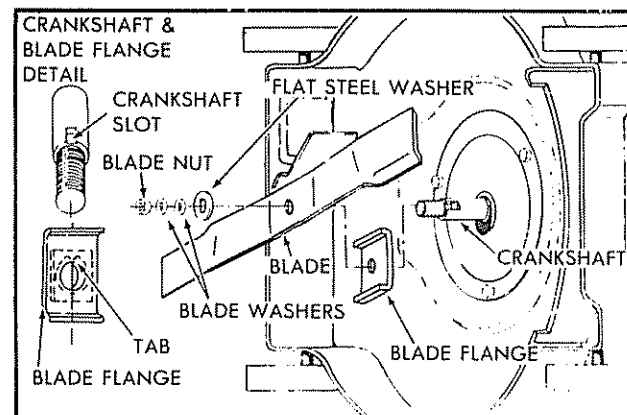

FIG. 19
NOTE: Always check the blade flange when changing the blade to be sure tab has not been damaged (See Fig. 19).
5. Put the blade flange on the engine crankshaft with the tab in the slot of the crankshaft (See Fig. 19).
6. Put the blade on the crankshaft as shown in (Fig. 19). Be sure the word "TOP" (stamped in the blade) is toward the engine.
7. Install the flat washer, two (2) formed washers and blade nut as removed above.